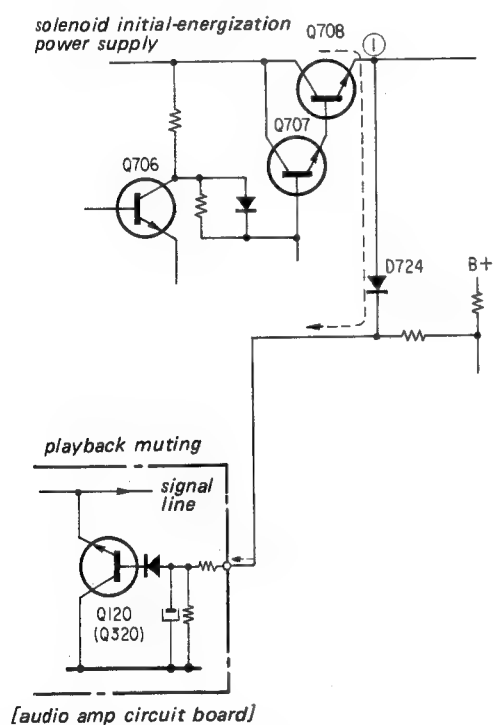

Fig. 16
14. Playback Muting (Refer to Fig. 16)